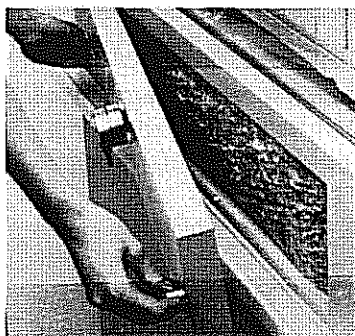

FIGURE 2.12 FILTER COVER REMOVAL
- N. **CHECK THE AIR INTAKE MICROFILTER.** Loosen the two thumb screws of the Air Intake Filter Cover and remove the cover as shown in Figure 2.12. Inspect the microfilter; if visibly dirty, it should be replaced. Refer to Paragraph 4.2.2 for additional instructions.